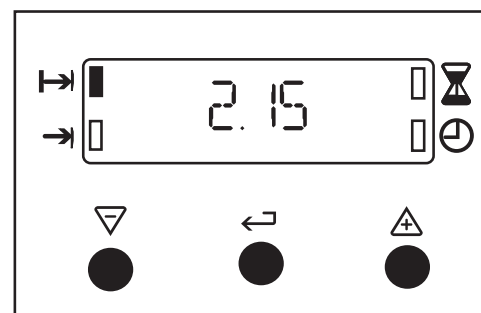

Fig.10.
- iv) To set the length of cooking time, press the Selector Control button until the 'Cook Time' indicator is illuminated. Press the increase control button (+) until the required length of cooking time is displayed, e.g. 2 hrs 15 mins as Fig. 10. Depress the decrease control button (-) if necessary.